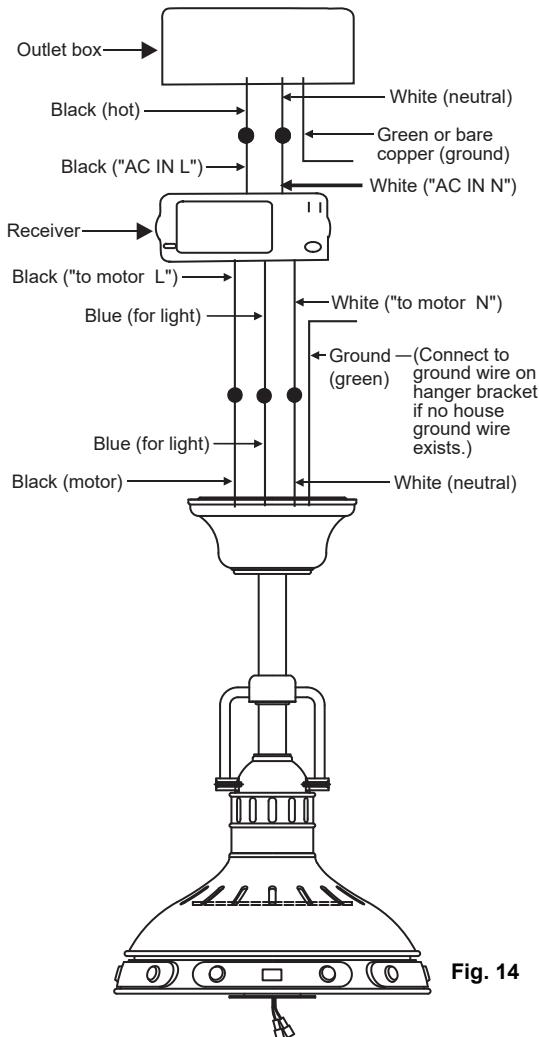

Fig. 14
**Step 2.** Motor to Receiver Electrical Connections: (**Fig. 14**) Connect the black wire from the fan to the black wire marked "TO MOTOR L" on the receiver. Connect the white wire from the fan to the white wire marked "TO MOTOR N" on the receiver. Connect the blue wire from the fan to the blue wire marked "FOR LIGHT" on the receiver. Secure all the wire connections with the plastic wire nuts provided.
**Step 3. (Fig. 14)** Receiver to House Supply Wires Electrical Connections: Connect the black (hot) wire from the ceiling to the black wire marked "AC in L" from the receiver. Connect the white (neutral) wire from the ceiling to the white wire marked "AC in N" from the Receiver. Secure the wire connections with the plastic wire nuts provided.
**Step 4. (Fig. 14)** Connect the ground wire (green or bare copper) from the outlet box to the ground wire on the ceiling mounting bracket and the ground wire from the ceiling fan. After making all connections, separate the white and green wire connections to one side and the black wire connections to the other side of the outlet box.